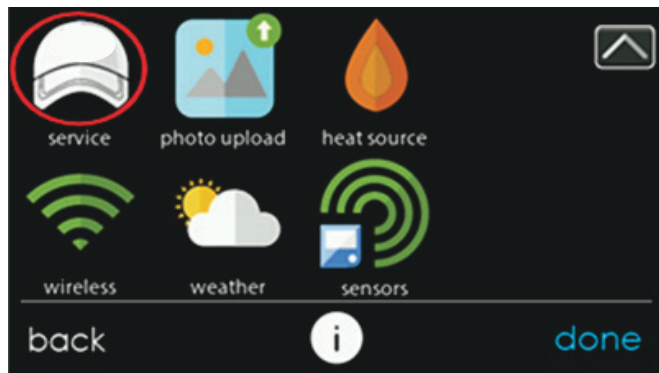
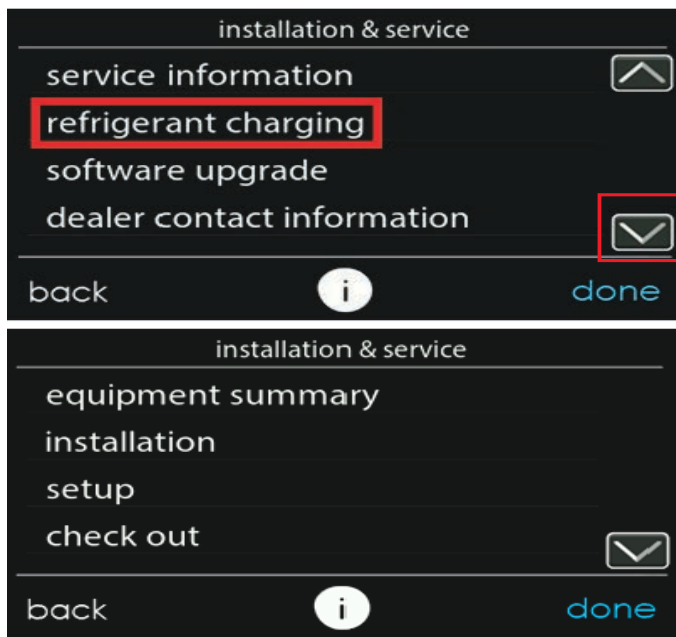
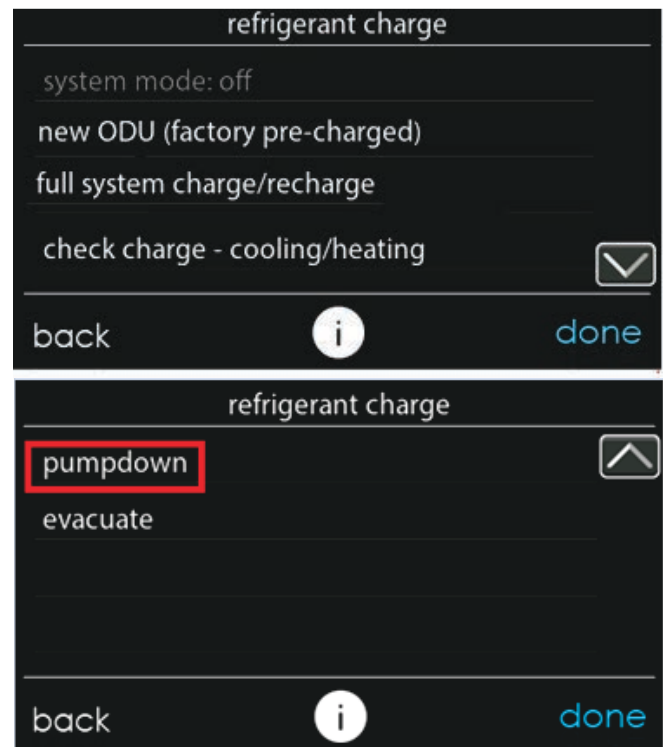

Fig. 12 – Entering Installation and Service Menu
Fig. 13 – Installation and Service Menu
Fig. 24 – Pump Down and Evacuation Selection
5. Navigate to the “Installation and Service menu” by performing a long press on the service icon from the main screen (see Fig. 12). Once in the “Installation and Service” menu, select “Refrigerant Charging” (see Fig. 13).
2. In the “installation and service” menu of the Infinity® System Control (see Fig. 12), go to “refrigerant charging” and then “pump down” (see Fig. 13 and Fig. 24).